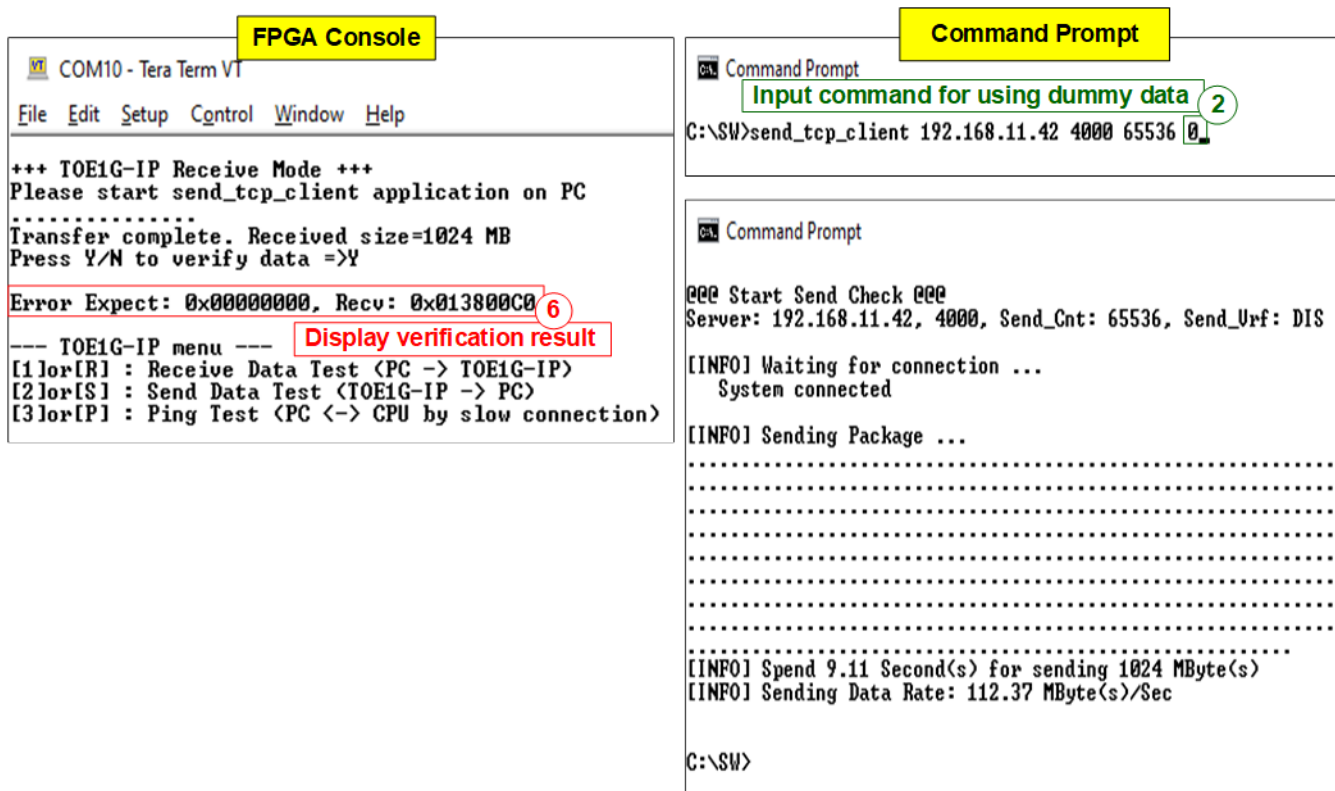

Figure 4-3 Receive data test when the data verification fails
- 6) If the read data mismatches the expected value during data verification, an error message is displayed (as shown in Figure 4-3). Once the data verification is completed, the system returns to the main menu.